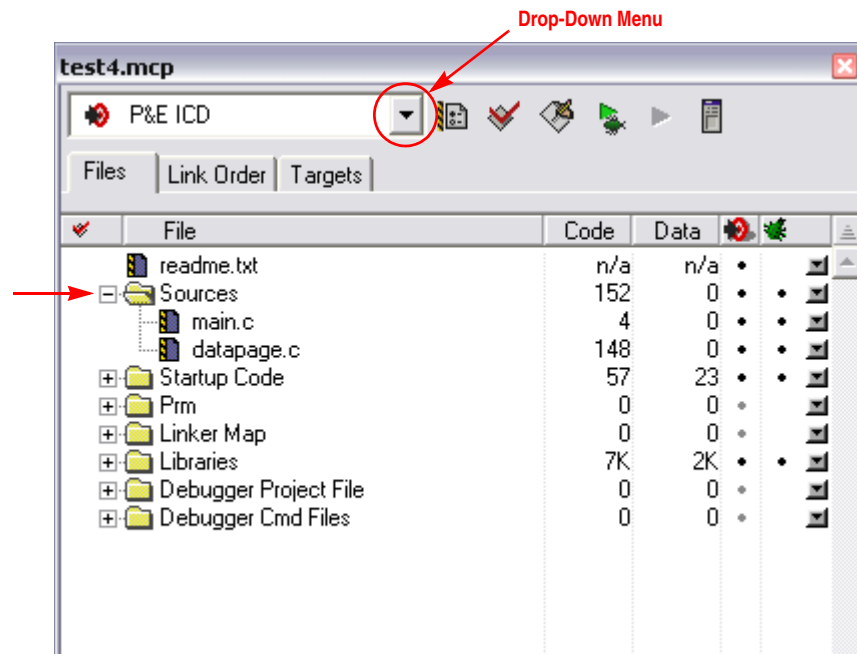

Figure 12. Project Window
- s. Click “Finish” — the wizard creates a new project based on information you specified. A project window will appear, docked at left side of main window (see Figure 12)
- a. Click the drop-down menu of the project window (see Figure 12)
- a. Click the “+” sign next to the “sources” folder to reveal files (see Figure 12)